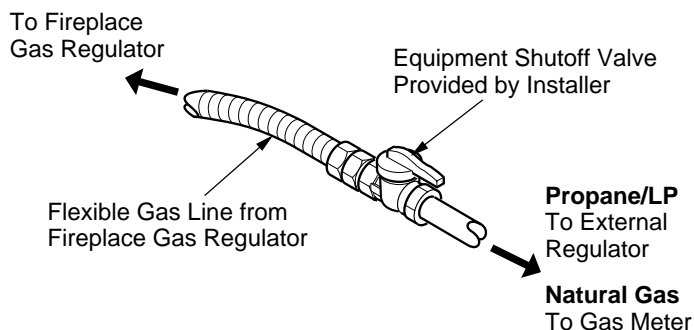

Figure 24 - Attaching Flexible Gas Lines Together
NOTICE: Most building codes do not permit concealed gas connections. A flexible gas line is provided to allow accessibility from the fireplace (see Figure 24). The flexible gas supply line connection to the equipment shutoff valve should be accessible.
- Attach the flexible gas line to gas supply (see Figure 24). Check tightness of flexible gas line attached to gas regulator of fireplace (see Figure 24).